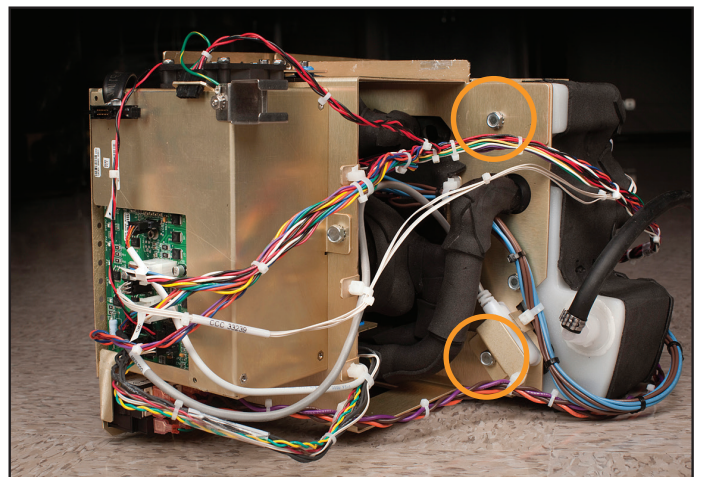

Fig. 8-25 Internal components (rear view); circles indicate bolts to remove (Step 1)
1. Remove the four bolts as shown (see Fig. 8-25 and Fig. 8-26).